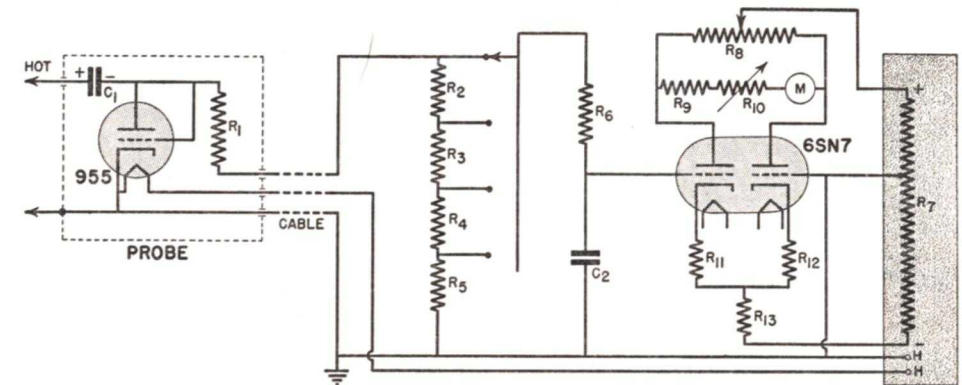

FIG. 5. An r.f. vacuum tube voltmeter capable of covering a wide frequency band without appreciable loading of the voltage source.
R.F. Vacuum Tube Voltmeter. When r.f. signal voltages are to be measured in order to determine accurately the amount of gain or loss in a stage or section, an r.f. vacuum tube voltmeter like the one shown in Fig. 5 is used. Undesirable test lead capacity is eliminated by placing the rectifier tube right in the probe used to pick up the r.f. voltage. The rectifier converts the r.f. into d.c. voltage, which can then be fed through a cable to a d.c. vacuum tube voltmeter.
In Fig. 5, the 955 triode tube is connected as a diode in a shunt-fed
to the input signal flows through the voltage divider resistors. This produces a d.c. voltage drop, so a d.c. vacuum tube voltmeter may now be used to indicate the signal level. The d.c. voltmeter circuit shown in Fig. 5 is of the balanced bridge type, having cathode degeneration to provide a linear scale. The combination R_6 - C_2 is an r.f. filter used to keep the r.f. off of the grid of the 6SN7 tube.